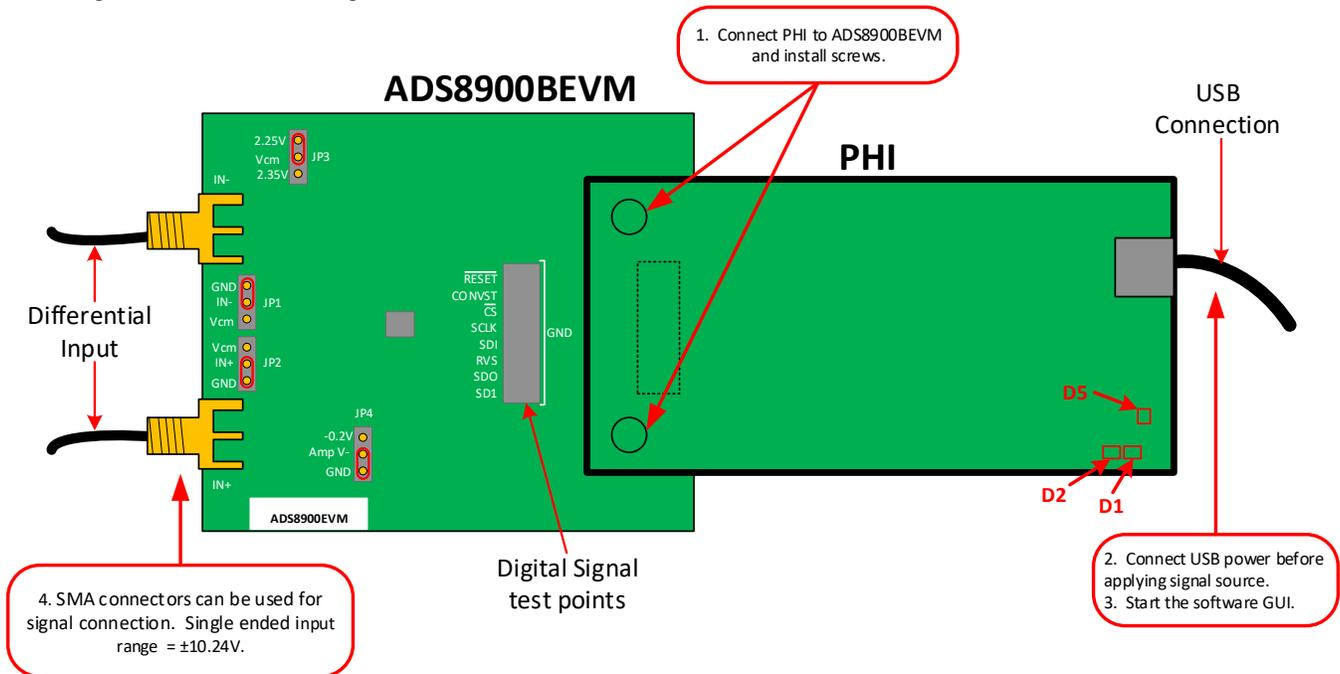

Figure 6-1. ADS8900BEVM Hardware Setup and LED Indicators
1. Connect the ADS8900VEVM to the PHI. Install the two screws as indicated in Figure 6-1.
- LEDs D1 and D2 on the PHI start blinking to indicate that the PHI is booted up and communicating with the PC. Figure 6-1 shows the resulting LED indicators.